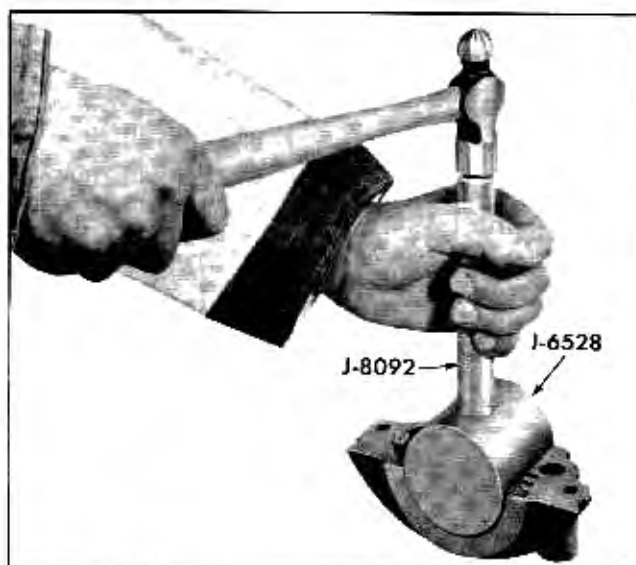

Fig. 6-32 Compressing Upper Seal in Bearing Cap
a. First install seal in cap with one end flush with cap and compress seal using hammer and Seal Compressor J-6528 (Fig. 6-32).